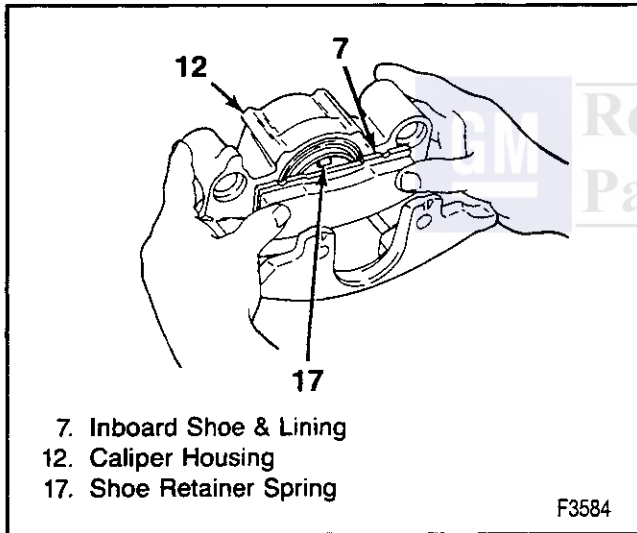
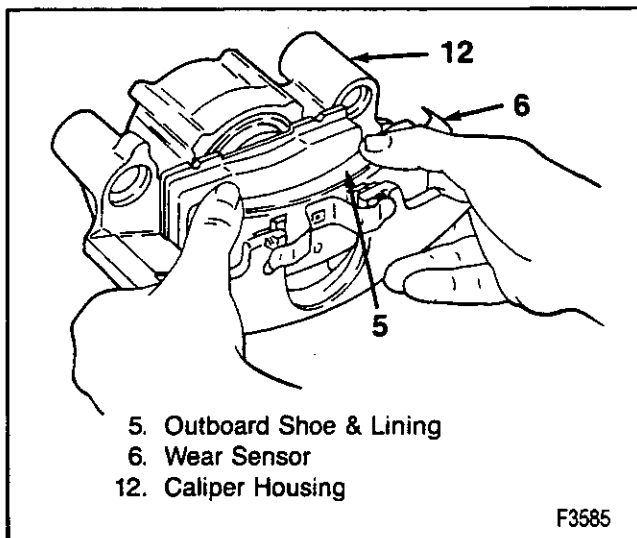

Figure 10—Installing the Inboard Lining
Figure 11—Installing the Outboard Lining
Install or Connect (Figures 10 through 12)
1. Lubricate bushings (3) and mounting bolt seals (4) with Delco Silicone Lube (GM P/N 18010909) or equivalent.
2. New bushings (3) and bolt seals (4) (if used).
3. New bolt boots (1).
4. Inboard lining (7).
- Snap retainer spring (17) into piston (9) (figure 10).
- The pad retainer spring (17) is already staked to inboard shoe.
5. Outboard lining (5) with wear indicator (6) at leading edge of pad during forward wheel rotation (figure 11).
6. Caliper (12). Refer to "Caliper."